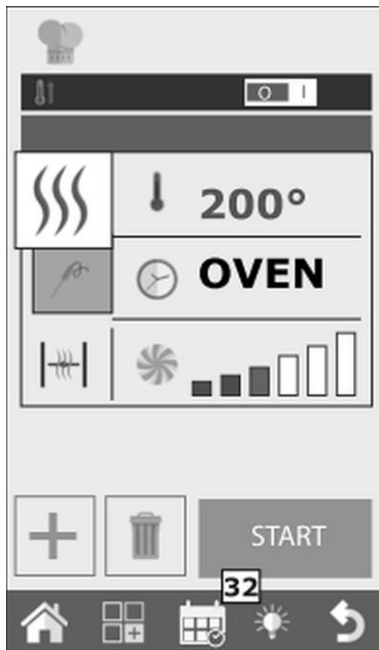

Fig. 40
A thermal processing start may be programmed beforehand by pressing key 32 (Fig. 40).